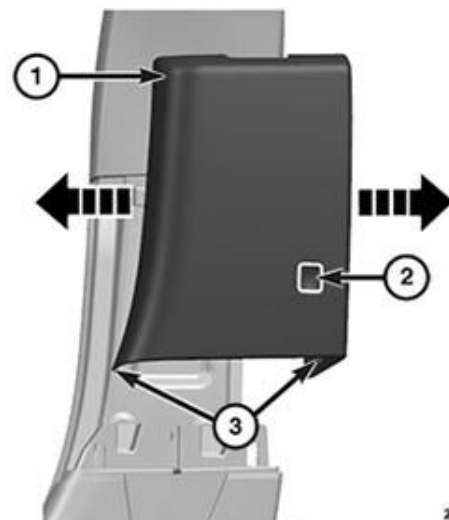

Figure 5 – B-Pillar Extension
- 15. Spread the bottom flanges of the B-pillar extension apart to disengage the lower side snaps, then use a trim stick or equivalent to disengage the remaining clips. Pull at the top edge seat belt opening to disengage the top retainers (Figure 5).